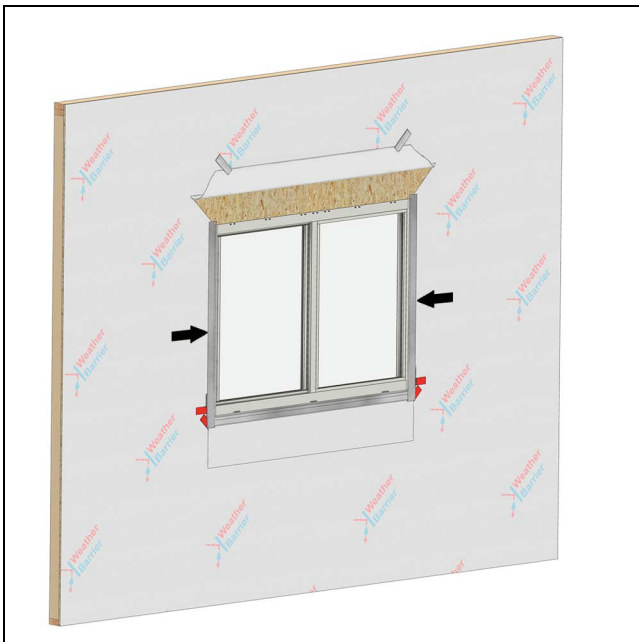

Figure 24
**2.** Lap vertical strips of adhesive flashing tape onto the unit and out over the WRB. See Figure 24.